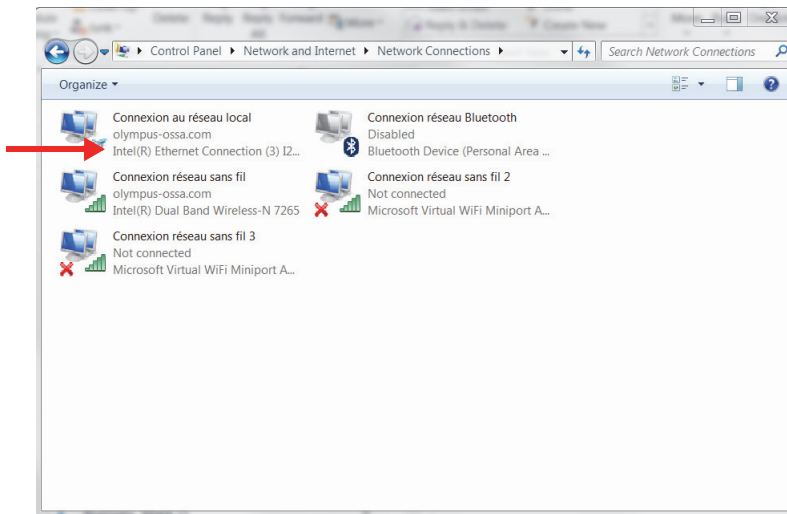

Figure 1-5 Network connections
1. Open the list of network connections in the **Control Panel**, and identify the connection used to connect to the FOCUS PX unit (Figure 1-5 on page 26).